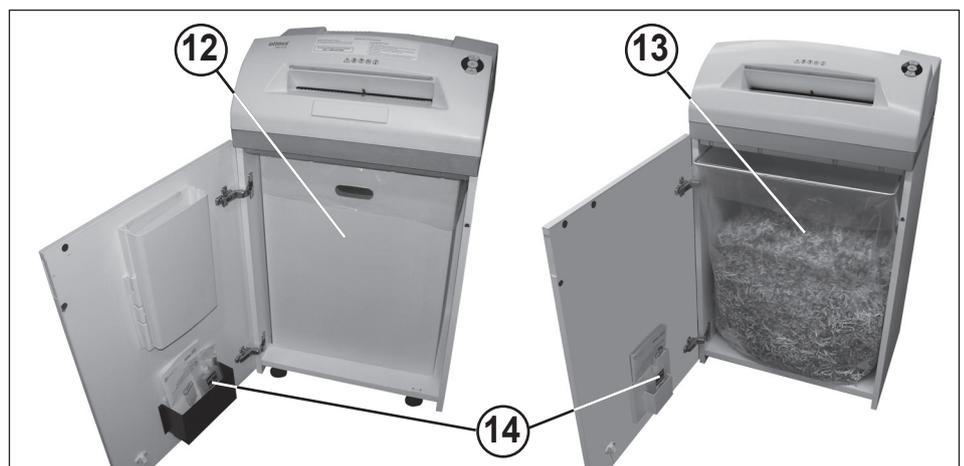

Fig. 4
12 = Receptacle (Fig. 4)
13 = Paper collection bag (Fig. 4)
14 = Oil reservoir (Fig. 4)
## EMPTYING THE RECEPTACLE / PAPER COLLECTION BAG / (Fig. 4):
Open the door. The control display (8) comes on and the reverse button (4) LED display (7) as well as the control display (7) flashes. Remove the oil reservoir (14) (Fig. 4) from the holder in the door and close the door again.